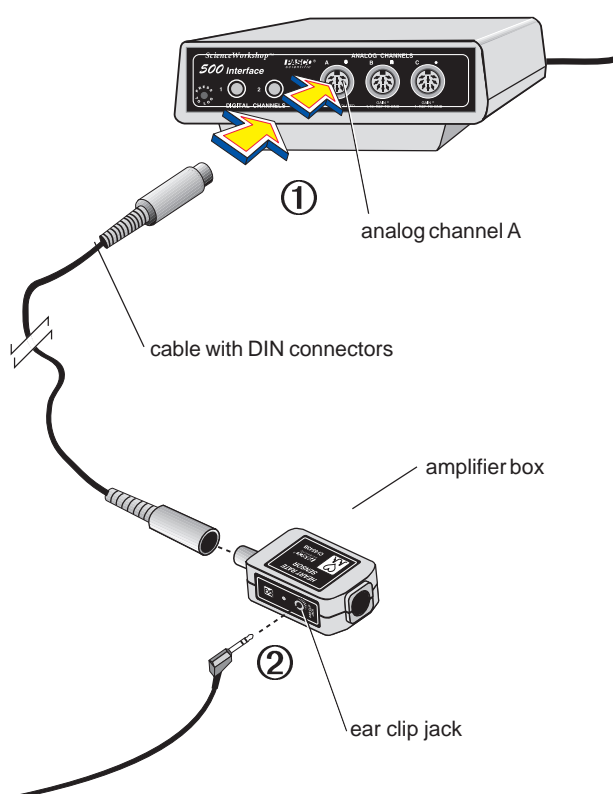

Figure 1
1. Connect the Heart Rate Sensor amplifier box to analog channel A, B, or C of the *Science Workshop* computer interface box using the cable with the DIN connectors (Figure 1). Alternatively, the amplifier box can be plugged directly into the analog channel jack.